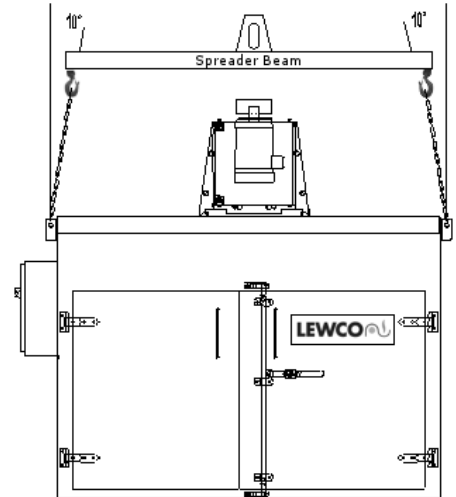

Figure 2: Typical Rigging
When applicable, lifting lugs are provided at the top (4) corners of the unit. It is important to note that rigging cables or chains must not exceed a maximum angle of 10 degrees from vertical (see *Figure 2*). Use a spreader beam, or rigging of adequate length, to avoid damage to the equipment. Please refer to any assembly drawings for specific assembly and rigging instructions.